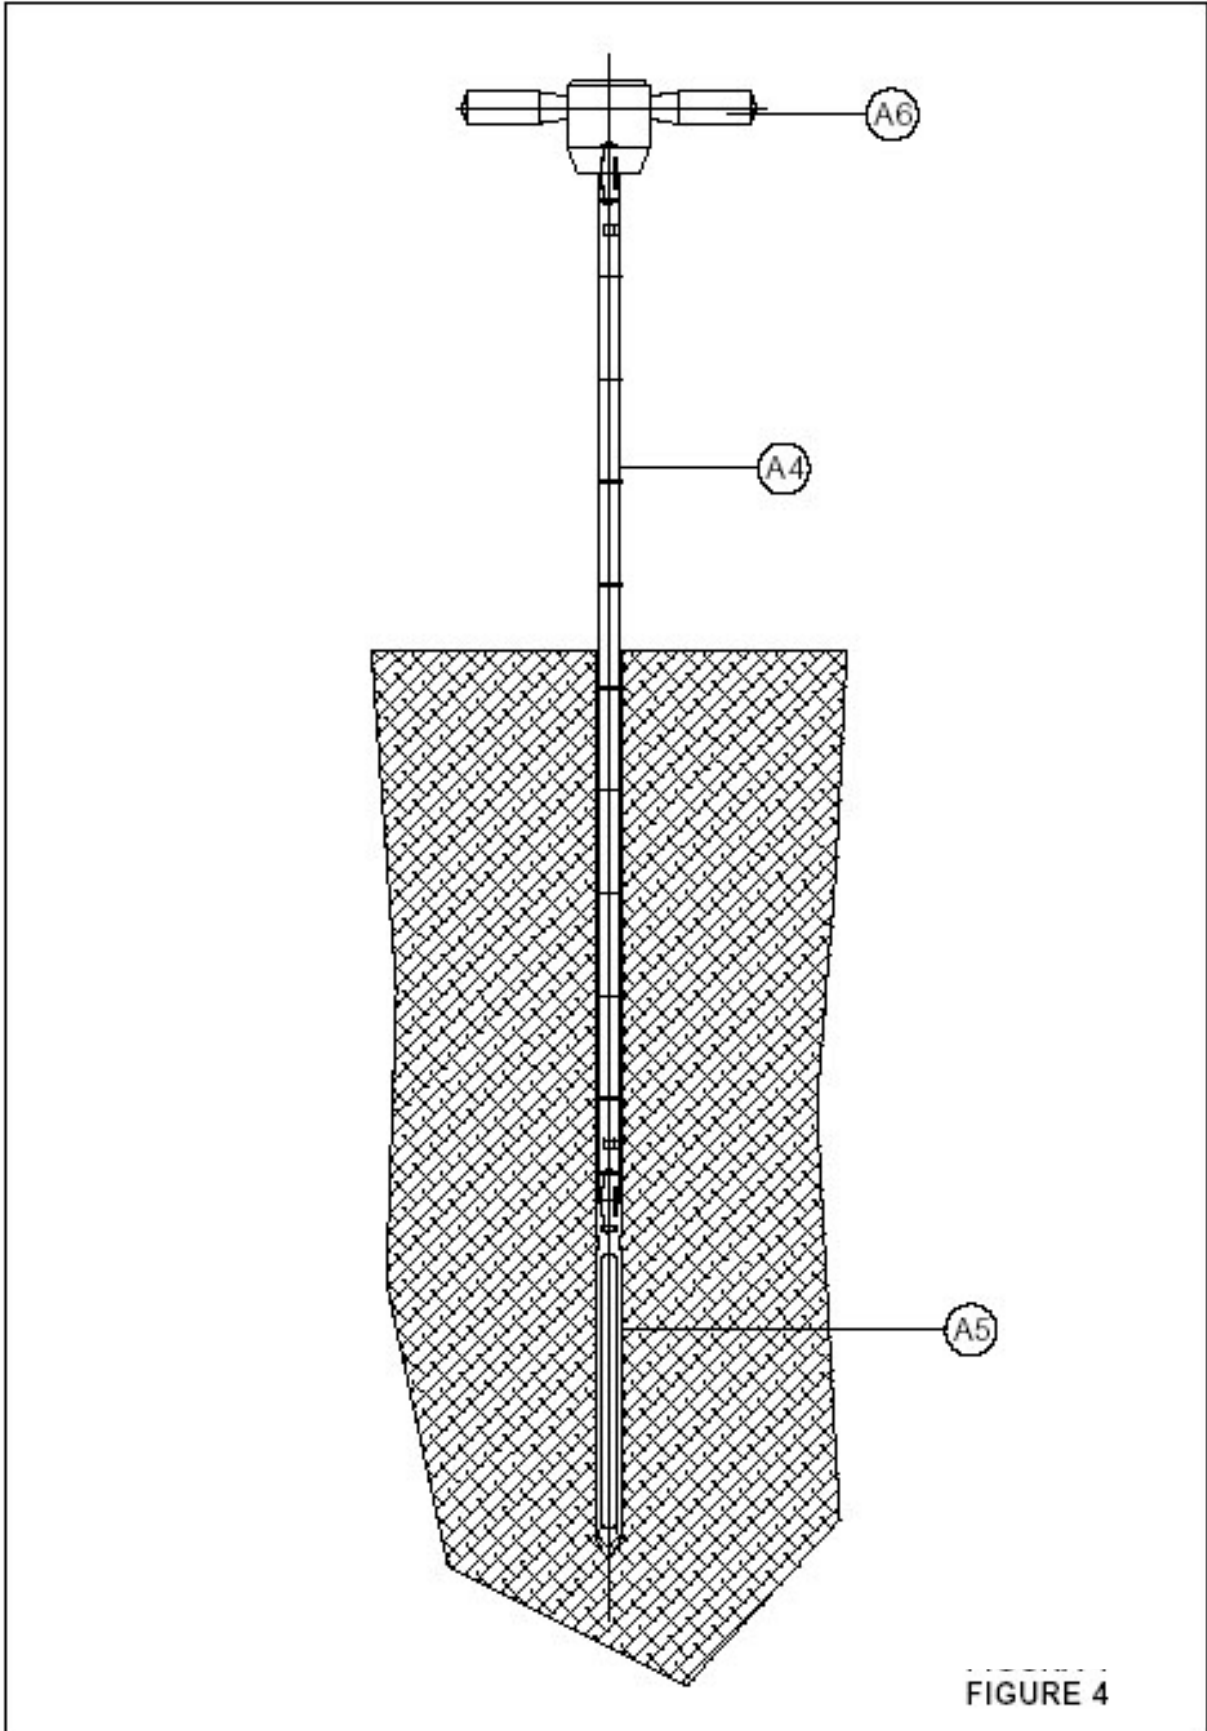

FIGURE 4
14. In order to extract ground samples join by a threaded pipe the grooved rod ( A5) and the Standard rod (A4) (FIG.4)